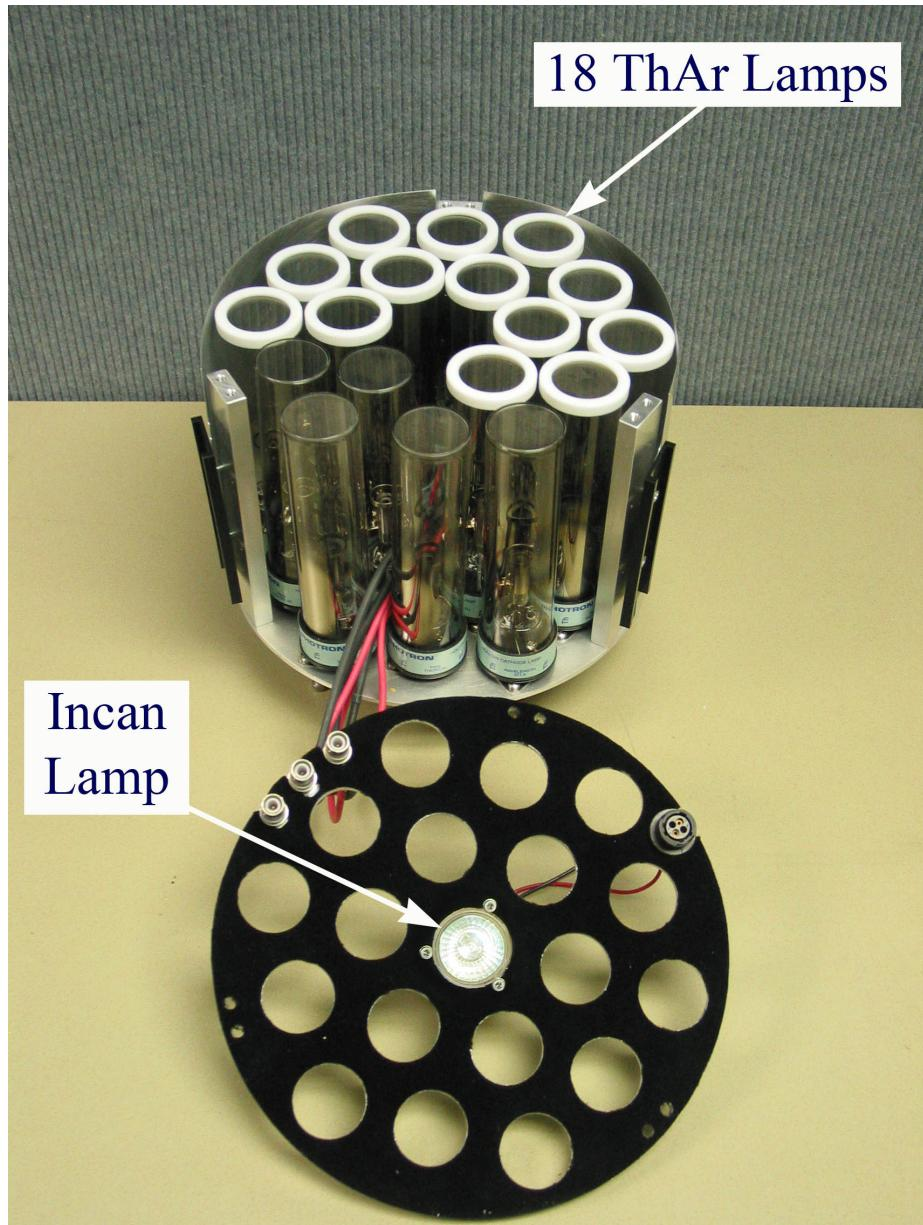

Figure 19: The partially assembled Hectochelle cal lamps system.
1. *Thorium-argon (ThAr) hollow cathode lamps* – These are nine (18) lamps that provide the primary wavelength calibration standard (see Figure 19). To make wavelength calibration exposure tractably short, they are mounted on a spider immediately in front of the secondary mirror and directly illuminate the focal plane. These bulbs are mounted on-axis and illuminate the focal plane relatively uniformly, irrespective of fiber position. Since these lamps point directly at the focal plane, they can be illuminated without closing the slit & it is recommended that a ThAr lamp be taken after every science frame or before and after each group of science frames. The guide cameras must have their gains reduced when the ThAr system is turned on, however this procedure, implemented by the HectoRobot operator, is routine. It is also essential to offpoint the telescope somewhat from the target stars during calibration, since it is undesirable to have stellar spectra superposed on the calibration data.